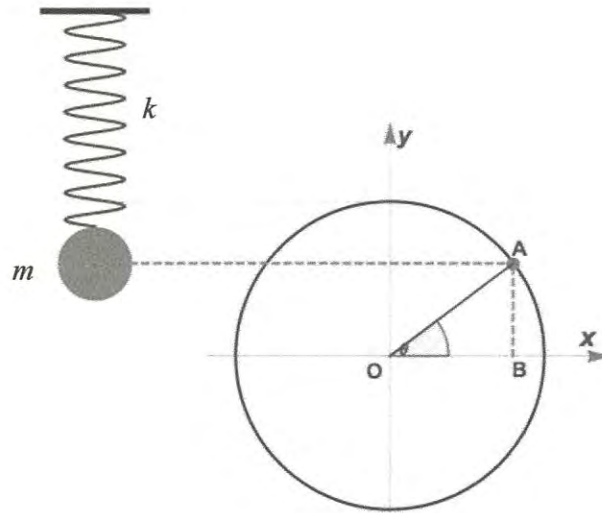

Figure Q1
- Q1** (a) A mass, m of $2P$ kg consider one vertical motion only with angular displacement, $\theta = \omega t$, with spring coefficient, k of $1Q$ kN/m as shown in **Figure Q1**. If the system oscillates at free motion with amplitude, Y of $1R$ mm: